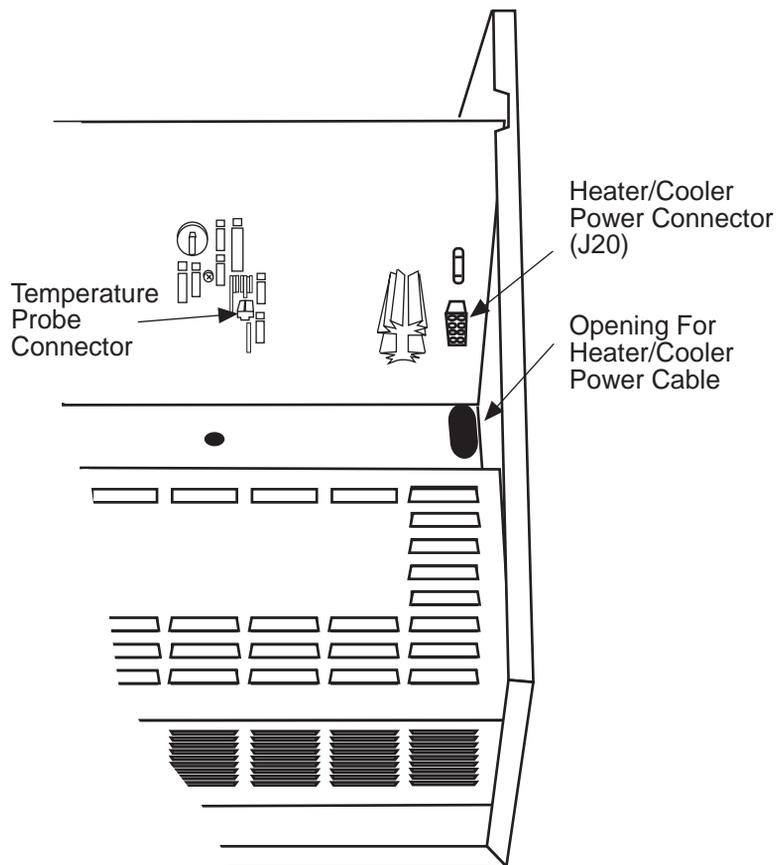

Figure 2-13 Connecting the Heater/Cooler Power Cord and Temperature Probe
5. Feed the power cable up through the opening in the chassis and attach it to the J20 connector on the main circuit board (Figure 2-13).
7. Attach the temperature probe connector to the main circuit board. The temperature probe connects to the main circuit board at J18, located to the lower right of the battery (see Figure 2-13).